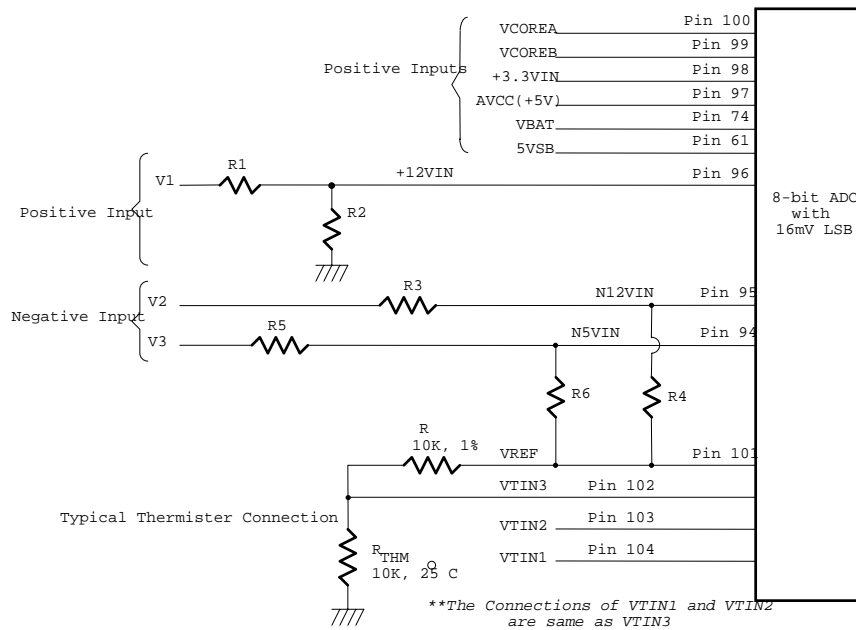

Figure. 2.2
The maximum input voltage of the analog pin is 4.096V because the 8-bit ADC has a 16mV LSB. Really, the application of the PC monitoring would most often be connected to power suppliers. The CPU V-core voltage, +3.3V, battery and 5VSB voltage can directly connected to these analog inputs. The +12V, -12V and -5V voltage inputs should be reduced a factor with external resistors so as to obtain the input range. As Figure 2.2 shows.
The negative voltage should be connected two series resistors and a positive voltage VREF (is equal to 3.6V). In the Figure 2.2, the voltage V2 and V3 are two negative voltage which they are -12V and -5V respectively. The voltage V2 is connected to two serial resistors then is connected to another terminal VREF which is positive voltage. So as that the voltage node N12VIN can be obtain a posedge voltage if the scales of the two serial resistors are carefully selected. It is recommended from Winbond that the scale of two serial resistors are R3=232K ohms and R4=56K ohm. The input voltage of node N12VIN can be calculated by following equation.
The W83697HF can connect three thermistors to measure three different envirement temperature. The specification of thermistor should be considered to (1) β value is 3435K, (2) resistor value is 10K ohms at 25°C. In the Figure 2.2, the themistor is connected by a serial resistor with 10K Ohms, then connect to VREF (Pin 101).